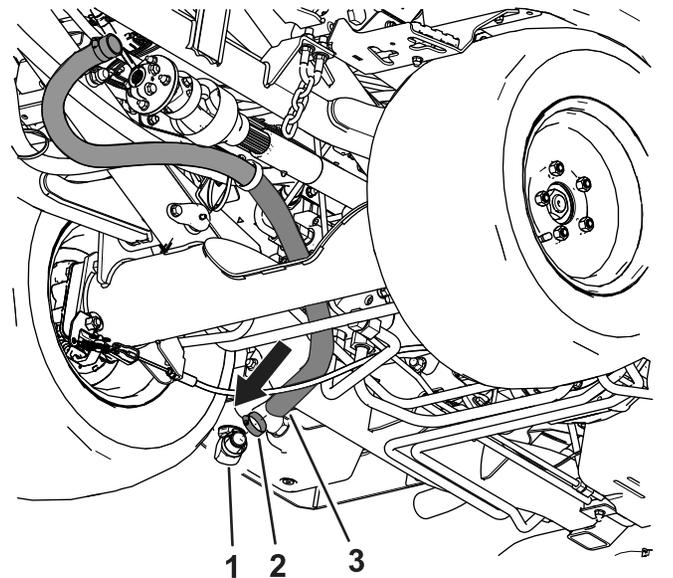

Figure 16
4. Install the strainer hose to the strainer fitting on the bottom of the hydraulic tank (Figure 16).